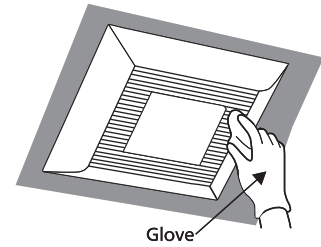

Fig.16
1. Clean grille. (Don't put into hot water. Use non-abrasive kitchen detergent, wipe dry with clean cloth.)(Fig.16)